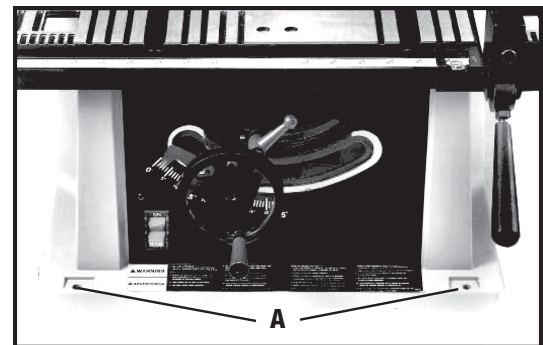

Fig. 4A
The saw must be elevated enough for sawdust to fall through the bottom of the saw and not build up around the motor. Position the four mounting holes located on the base of the saw cabinet (two of which are shown at (A) Fig. 4A) over whatever proper support you are using. Then securely fasten the saw to the supports. The saw can be secured by fastening the stand through the mounting holes with suitable hardware (not supplied).